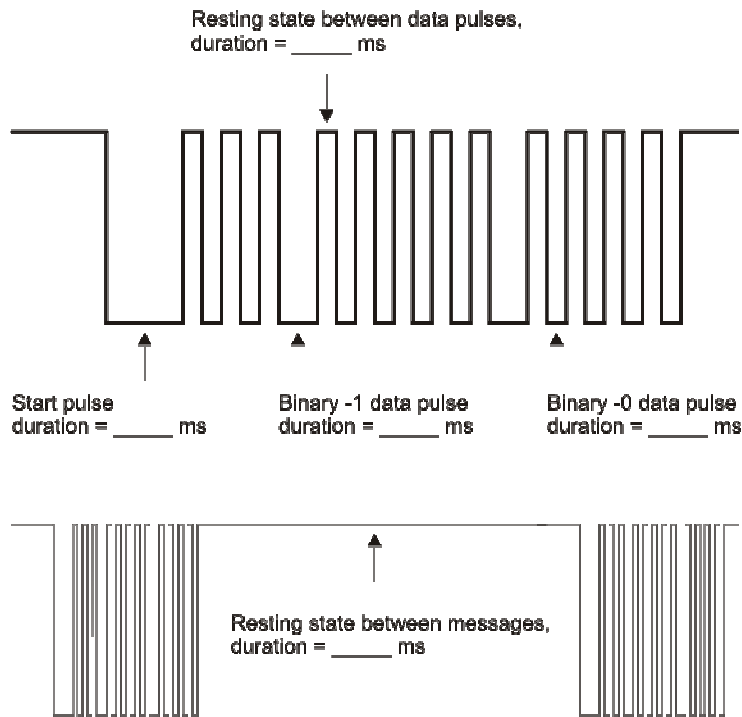

Figure 1-10
Figure 1-10 shows a timing diagram for an IR message from the remote. This diagram shows the timing while the 5 key on its digital keypad is pressed and held. Your task will be to fill in the blanks for each measurement using the numbers you have recorded in this activity. Remember that there are 1000 μs in every 1 ms. Your measurements have been in microseconds, so you will have to divide each by 1000 to enter the millisecond measurements in the timing diagram.
- √ Use the measurements you have taken in this activity to fill in the millisecond measurements in Figure 1-10.